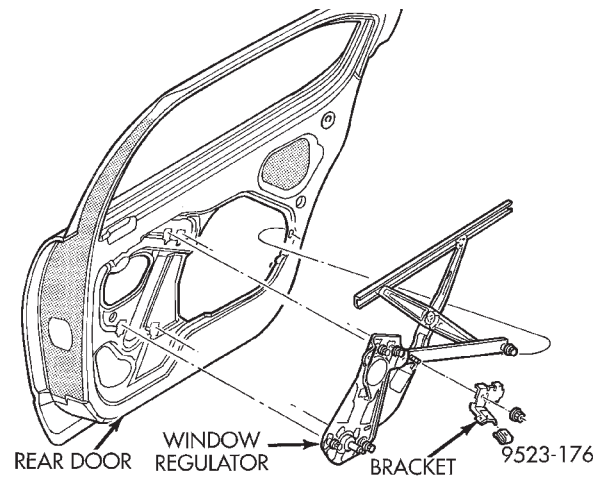

Fig. 54 Rear Window Door Glass Regulator
- (1) Remove door trim panel.
- (2) Separate glass from regulator roller channel.
- (3) Disengage power window motor wire connector, if equipped.
- (4) Loosen screw holding regulator scissor channel to door panel (Fig. 54).
- (5) Separate screw and bolt heads from keyhole slots in door panel.
- (6) Loosen bolts holding regulator to door panel.
- (7) Separate regulator from door panel.
- (8) Slide regulator rearward and rotate forward end of roller channel through access hole in door panel.